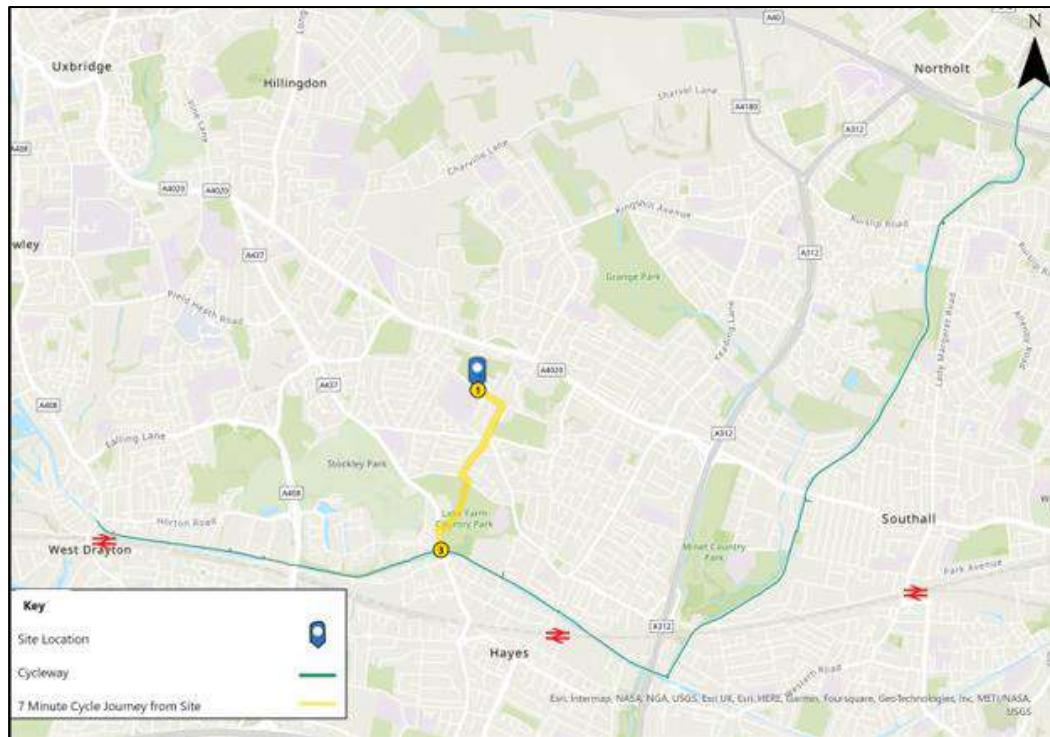

Figure 2.5: Route to/from Cycleway
2.19 It is pertinent to note that there is a TfL Cycleway located to the south of the site, which provides access to West Kilburn in the east and Colne Valley Regional Park to the west. The Cycleway is a circa 7-minute cycle from the site, with the route shown in **Figure 2.5** below.